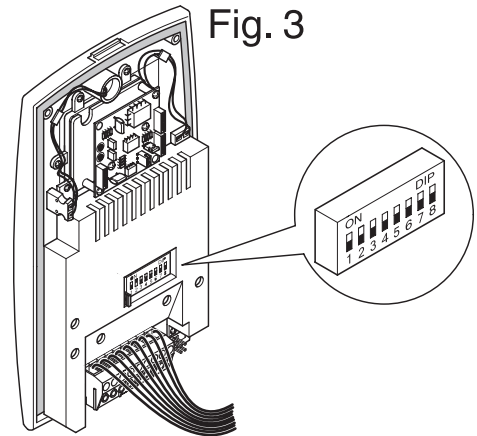

Fig. 4
4. Confirm the function set by inserting jumper JP5 (Fig.4), wait until a confirmation tone sounds.